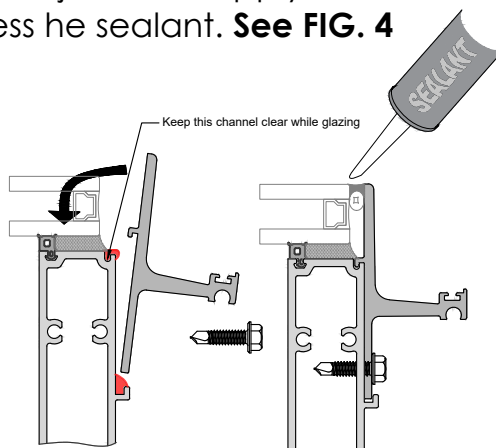

FIG. 4
- b. Apply appropriate backer rod into the joint and apply a continuous silicone weather seal. Tool any excess sealant. **See FIG. 4**